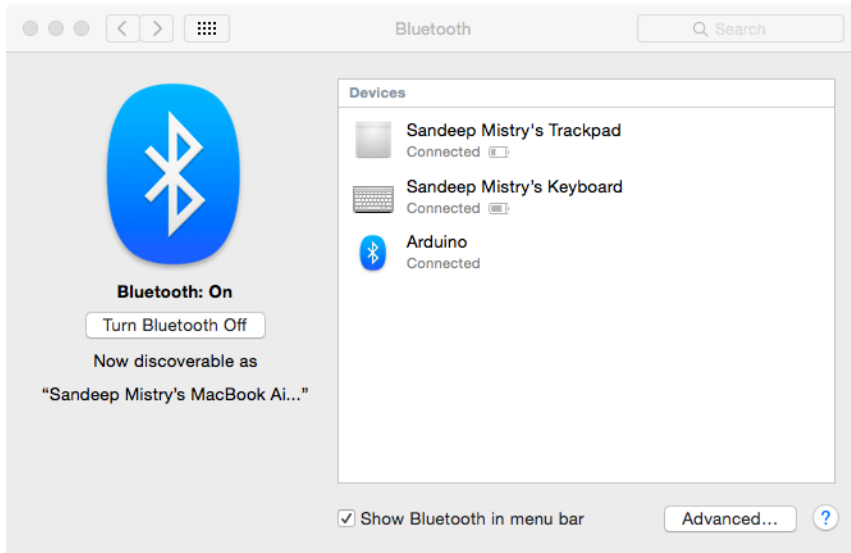

Figure A-9 OS X screen showing paired devices
4. The device is connected (Figure A-9).